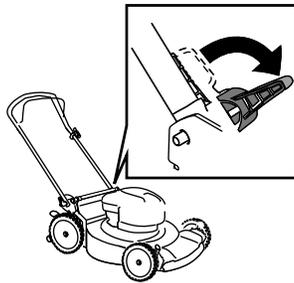

Figure 16
3. Disengage the handle locks (Figure 16).